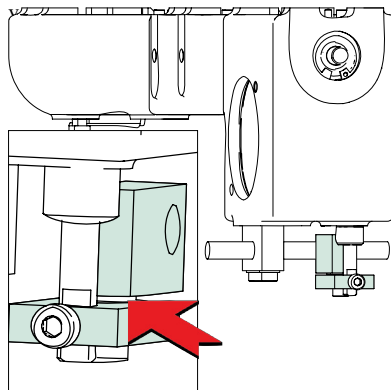

Fig. 12: Thread trimmer drive lubrication points (view of cylinder arm from rear)
- Unscrew and remove the screws in the covers ① (Fig. 12).
- Move the border frame ② (Fig. 12) to the right end position. The plates can then be moved to the right.
- Move the border frame ② to the left end position. Slightly raise the covers ①.